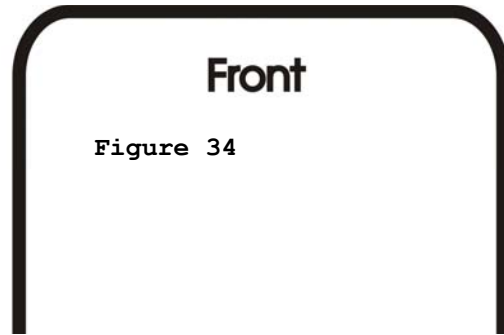

Figure 34
Turn on the hexapod circuit. The servomotors will quickly move to their center position. Attach the rear leg to the rear servomotor in its center swing position (150) as shown in figure 34. Do the same for the second rear leg. See figure 35.